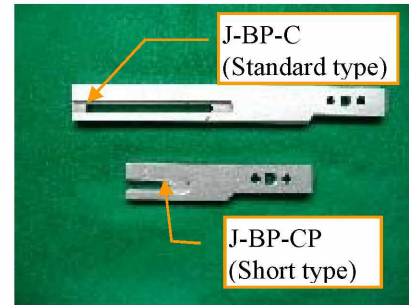

Fig. 29– Names of parts in replacing the base plate
- If the base plate for the J-BP-C (standard type) is too long, it may be replaced with the J-BP-CP (short type) (see Fig.29).